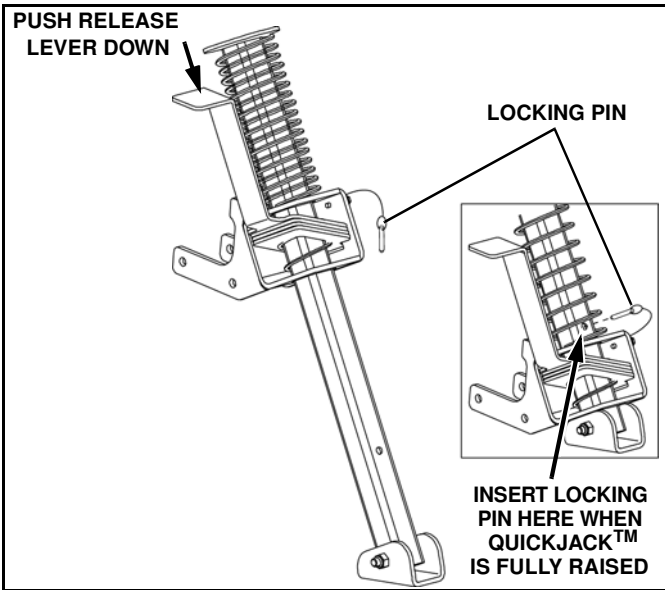

Figure 1-29
5. Raise QuickJack™ foot by pushing down on its release lever. Insert the locking pin in the QuickJack™ tube to prevent the jack from dropping during transport or plowing operations. (See Figure 1-29).
6. Release the foot, insert the foot locking pin (See Figure 1-29) and connect the lighting harness.